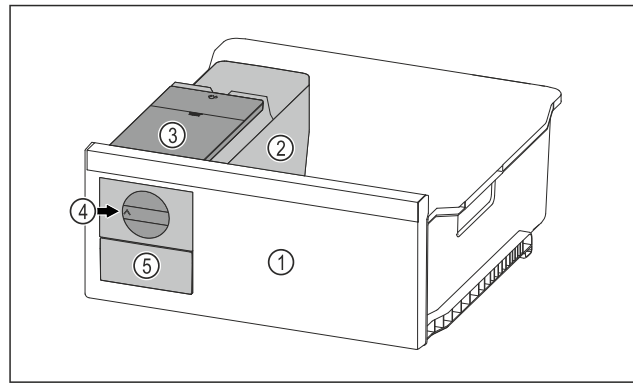

Fig. 68 Example illustration
- ▶ Turn the rotary knob Fig. 68 (4) clockwise as far as it will go.
- ▷ Ice cubes fall from the ice cube tray into the ice cube drawer Fig. 68 (5).